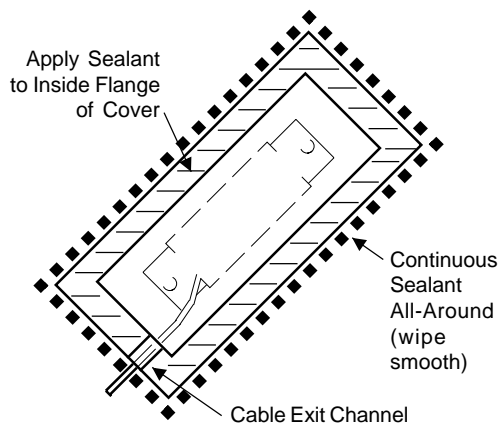

Figure 4-8. Environmental Cover
11. See Figure 4-8. Apply a generous bead of sealant to the inside flange of the environmental cover. Add extra sealant to the cable exit channel.